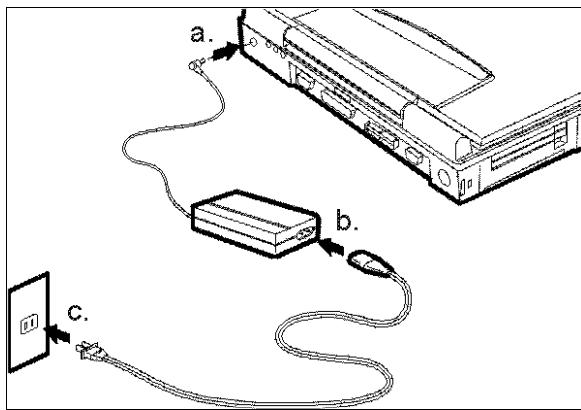

Figure 2-8 *Installing the AC Adapter*
1. Remove the AC adapter from the packaging. Connect the round coaxial connector supplied with the notebook to the **DC IN** power receptacle on the left rear of the notebook as shown in Figure 2-8 (a).